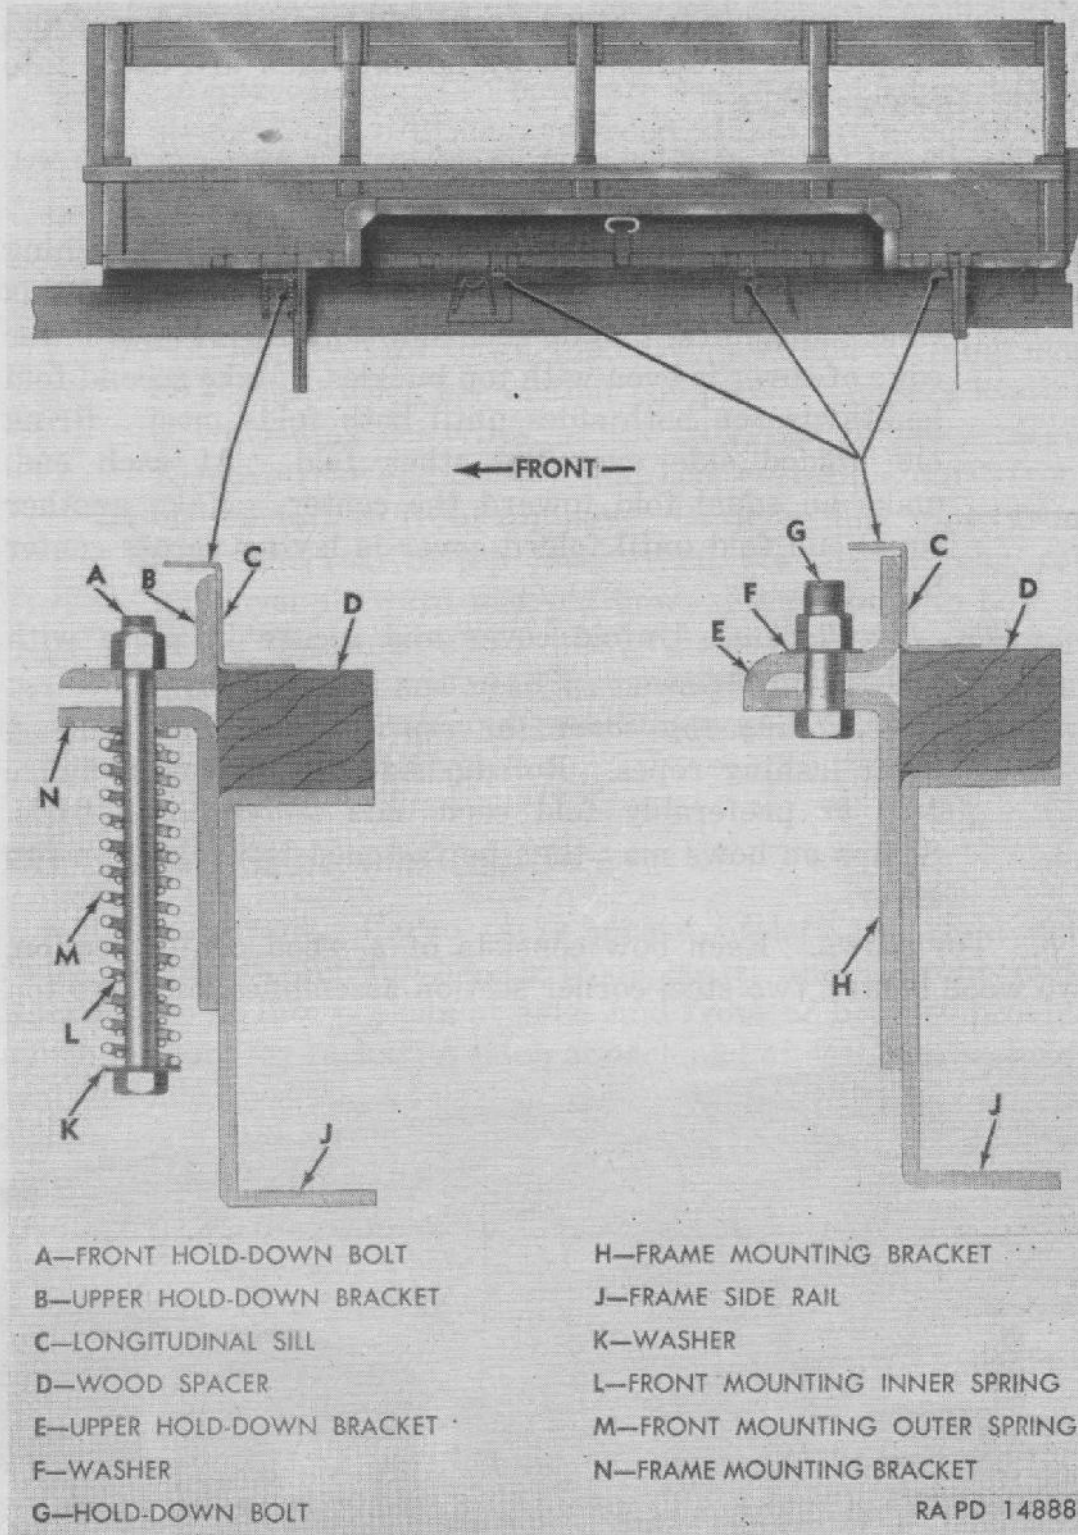

Figure 184. Cargo body mounting.
a. **DESCRIPTION.** Body is mounted to frame side rails as shown in figure 184. Dual, flexible spring-type mounting is used at each front corner, with three rigid-type mountings used on each side. Mounting bolts should be examined periodically for condition and tightness of mounting bolt nuts. Proper tightness for rigid-type nuts is 100-120 pound-feet torque. Front corner mounting bolt nuts should be drawn up just tight enough to partly compress springs.
c. **INSTALLATION.** On flexible spring-type mountings, position washer, inner spring, and outer spring on mounting bolt. Position bolt through brackets as shown in figure 184, install nut, and tighten just enough to partly compress springs. On rigid-type mountings, position bolt as shown in figure 184, install nut, and tighten to 100-120 pound-feet torque.